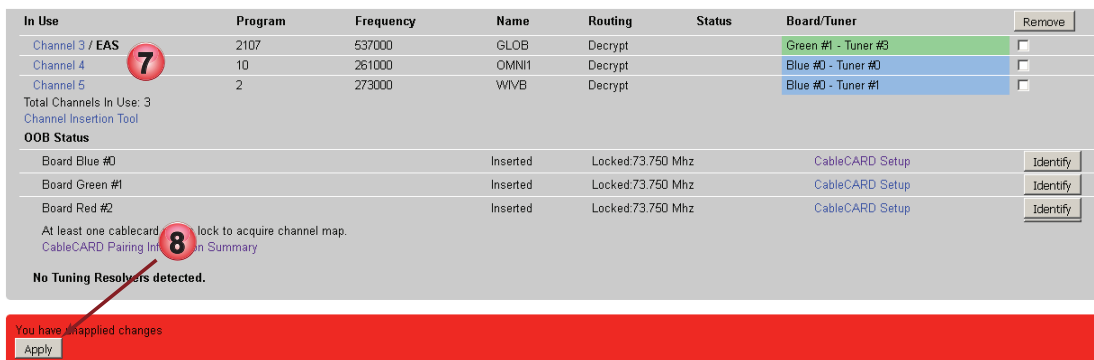

Figure 2-3: Apply Program Changes
7. Programs will be added to the **In Use** list, Figure 2-3.